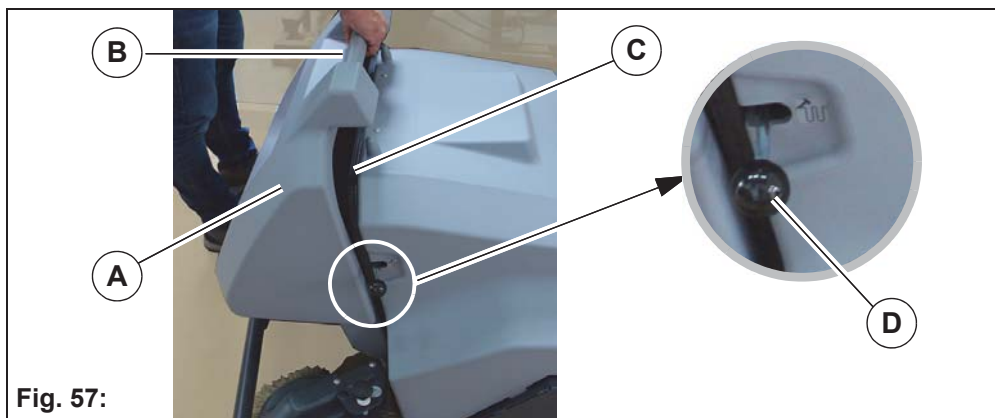
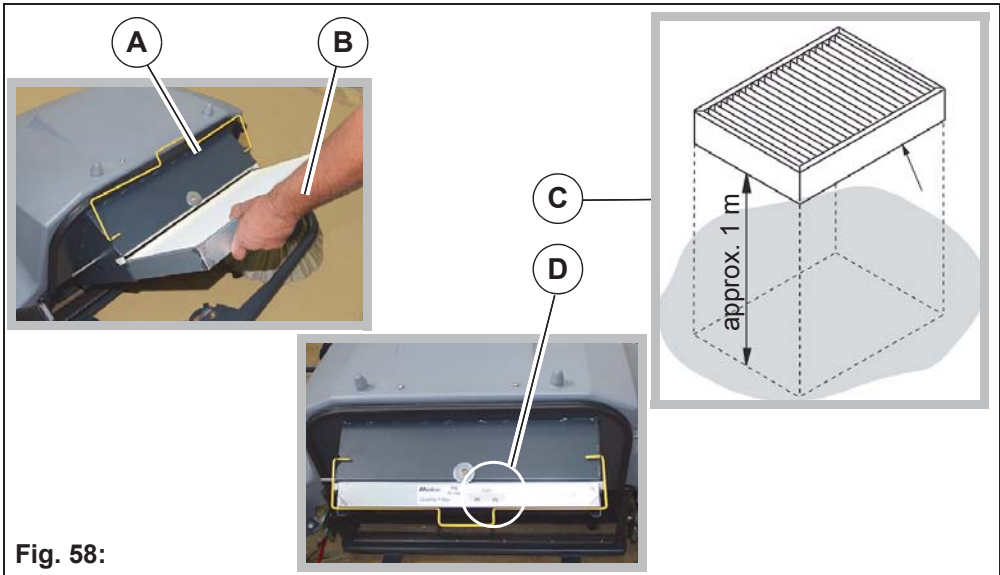

Fig. 57:
Fig. 58:
2. Pull the dirt hopper **Fig. 57-A** upwards using the handle **Fig. 57-B** and dispose of the contents in an environmentally friendly way.
Inspect the dirt hopper seal **Fig. 57-C** weekly and replace if wear is present.
Clean the filter **Fig. 58-B** several times per day using the shaking system **Fig. 57-D**.
2. Swivel the yellow handle **Fig. 58-A** upwards and pull the filter **Fig. 58-B** out of the frame.
The dirty side must be facing the floor **Fig. 58-C!**
2. Remove the dirt hopper **Fig. 57-A**.